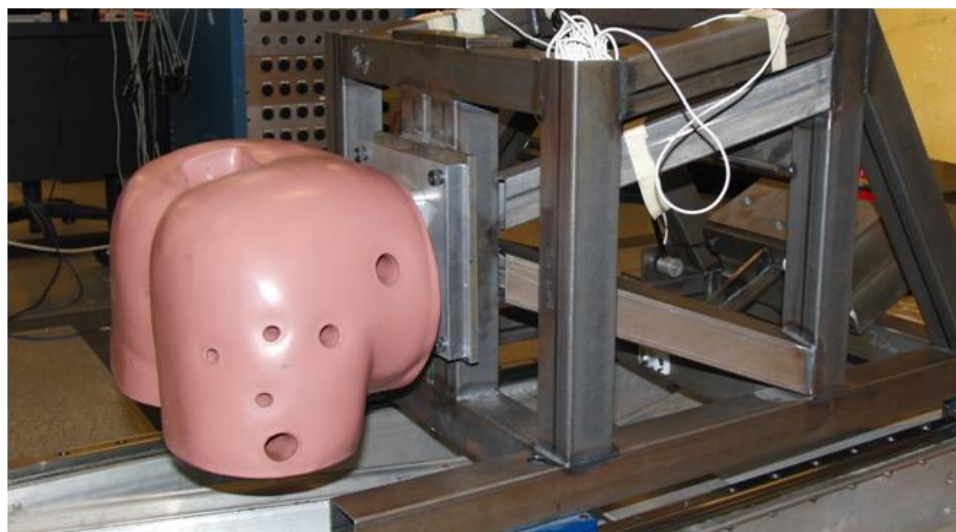

Figure 9: BioRID Pelvis Bottom Impact Test
- With the probe free hanging, slide the sled toward the probe until the pelvis bottom is just touching the probe face. Figure 9 illustrates a pelvis mounted on the front of the test sled.